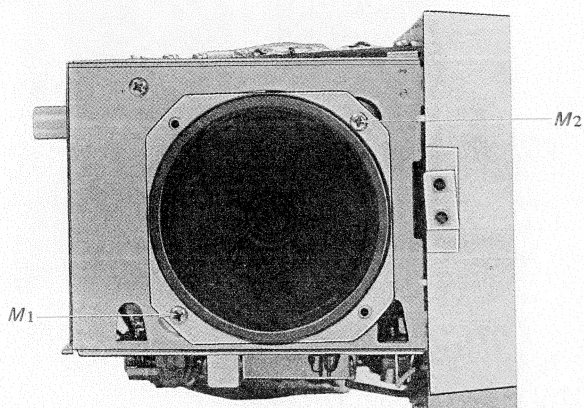

Fig. 2-16
2. Remove the two screws labeled M1 and M2 in Fig. 2-16.